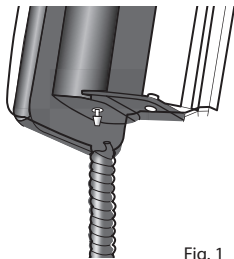

Fig. 1
1. Remove the cuff and tubing from the air stem on the underside of the gauge, Fig 1.